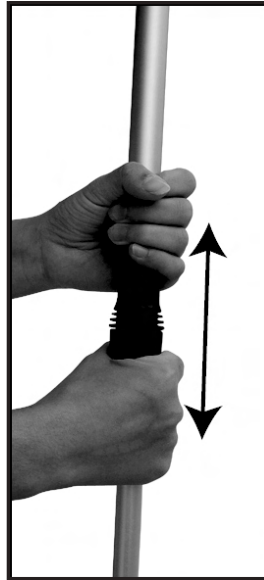

Fig.15
- 2) Pull the tube out to increase the height, or push the tube in to decrease the height. (Fig.15)